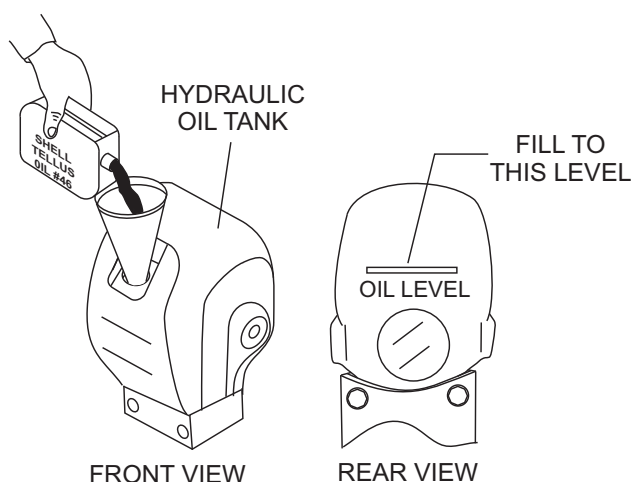

Figure 27. Hydraulic Oil Maintenance
2. Using a funnel, add **ShellTellus Oil #46** or equivalent to the hydraulic oil tank through the oil filler port (Figure 27). Oil tank capacity is 50.7 fl. oz (1500 cc).